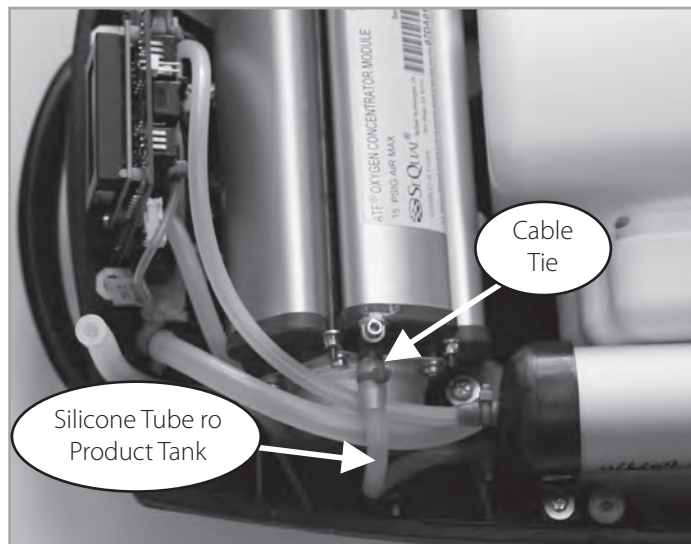
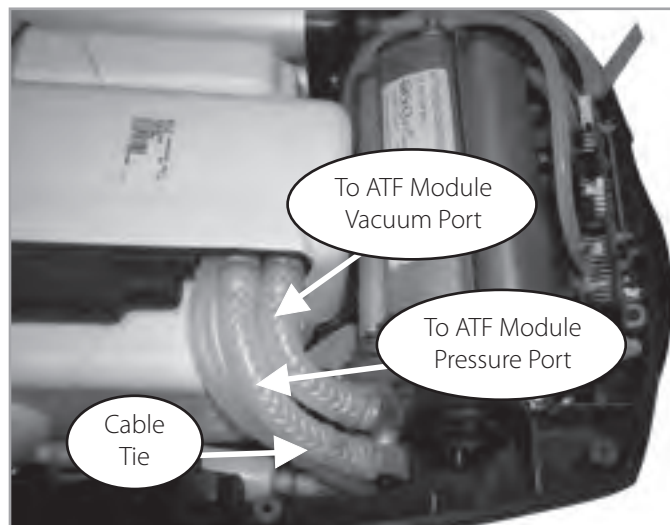

Figure 35: Removal of ATF Module Product Hose.
Figure 36: Removal of ATF Module Pressure and Vacuum Tubes.
2. Cut the 2 green cable ties that secure the silicone tubes to the top of the Product Tank as shown in Figure 35 below. Disconnect these two silicone tubes. Pinch the silicone tube coming from the ATF product port and secure with a cable tie as shown on Figure 36 on next page.
9. Install Product Tank with 2 screws and 2 flat washers into the Unit Case as shown in Figure 36 above.